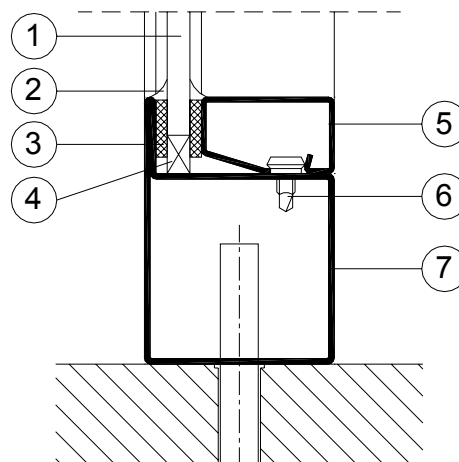

Figure 5
2. Seal with correct thickness corresponding to the glass shall be stuck on the glazing lug of the frame (see Figure 5).
3. In the corners under the glazing aperture (approximately 50-100mm from the edge) glazing blocks (4) shall be installed (see Figure 5) so that their height would be 10 mm and the thickness would be equal to the thickness of glass.